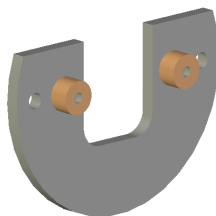

Figure 2. Special Cover Plate for Electrical Heating Jacket
- 1 Special Front Cover Plate (for use with Electrical Heating Jacket P/N 20730). (See Figure 2.)